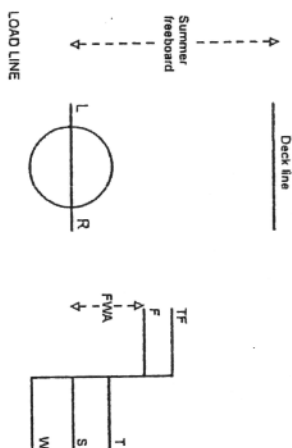

Fig 1.8 Calculating loaded draft.
- The summer freeboard and the FWA are not marked as such on the vessel, but are shown in Fig 1.8 to clarify this point. As can be seen from Fig 1.8, the freeboard is the distance between the uppermost continuous deck, marked by the deck line, and the waterline. The larger it is, the more reserve buoyancy the vessel has and the less chance there is of waves breaking over the deck.